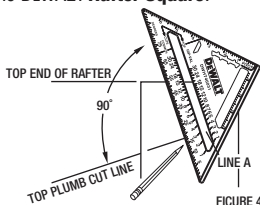

FIGURE 4
Simply line up A on the square so that it coincides with the top plumb cut line you just made. Your protractor scale edge will now be 90 degrees to your plumb cut line. Mark a line, along your protractor scale edge, on which you will measure and mark 1/2 your ridge thickness. (See Figure 4)
2) Mark a line perpendicular to the top plumb cut line, as shown in figure 4 page 30. Along this line measure and mark the thickness of the rafter.